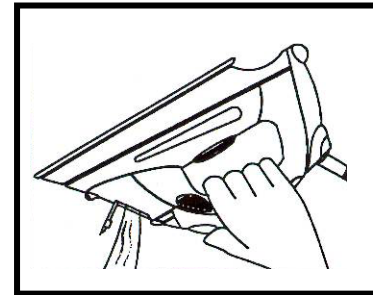

Figure 8
5. Turn the iron upside down over the sink with the tip pointing downward and allow the water to flow from the opening. (See fig. 8)